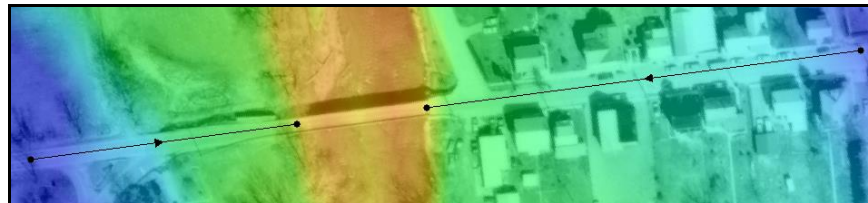

Figure 10 Abutment centerline arcs
4. Using the **Create Feature Arc**  tool, create two arcs representing the centerlines of the two abutments (east and west) as shown in Figure 10. Start the arcs at the point farthest from the bridge and end them at the bridge.